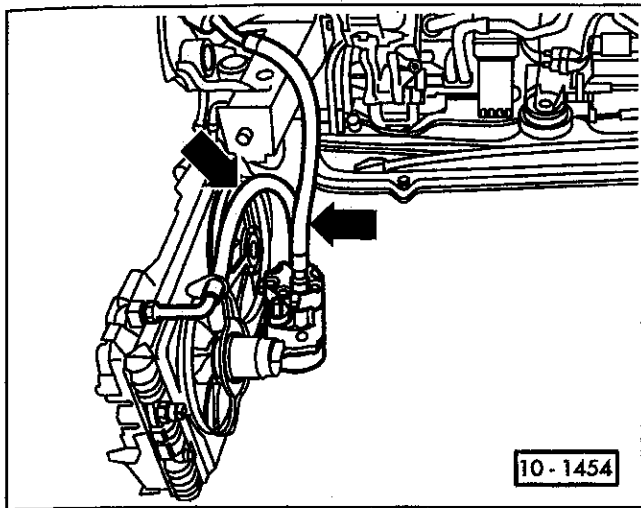

Fig. 3. Radiator assembly on cars with A/C shown positioned in front of engine.
12. On cars with A/C, swing the radiator together with fan and the A/C condenser out and away from the engine. See Fig. 3.